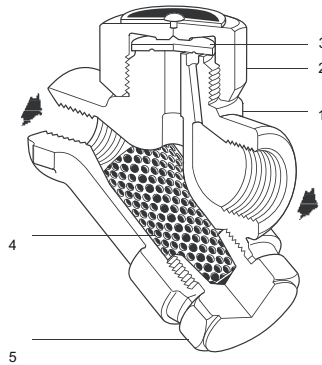

Figure 1: Forbes Marshall Thermodynamic Trap
7.4. Procedure to service trap: [Refer figure 1]
3. When re-assembling main bore cap (2), the disc (3) is normally placed in position with the grooved side in contact with the body seating face (1). No gasket is required but high temperature anti-seize grease should be applied to the threads. Tighten the main bore cap (2) to the recommended torque as mention in Table 1.
7.5. Procedure to replace the strainer screen: [Refer figure 1]